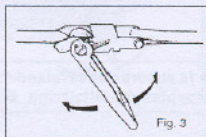

Fig. 3
- tension the line by performing a pumping action with the lever of the tensioner (Fig. 3)